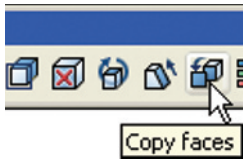

Fig. 18.13 The **Copy faces** tool icon from the **Solid Editing** toolbar
2. Click on the **Copy faces** tool in the **Solid Editing** toolbar (Fig. 18.13). The command line shows: